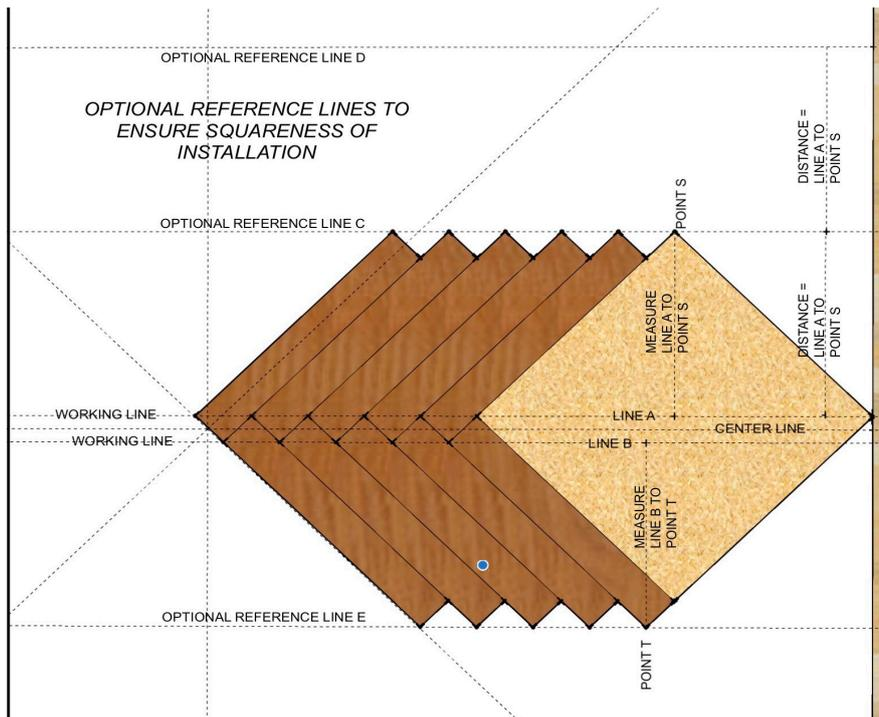

Figure 4
8. It is also a good idea to create more reference lines in the room to allow you to check for the alignment as the installation progresses (see Fig.4 on page 6). With the reference line in place, you will be able to ensure the diagonal patterns have not run adrift.